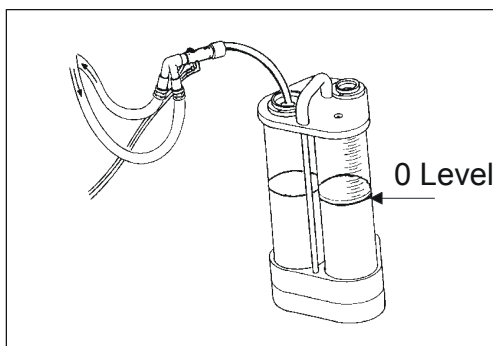

FIGURE 5-20
8. Move the tester's scale so that zero is at the lowest water level (at the end of expiration) (see FIGURE 5-20).